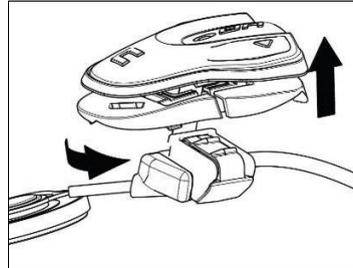

Fig. 15
- Rotate the keypad support so as to position it like in Fig. 15, then hook it to the keypad.